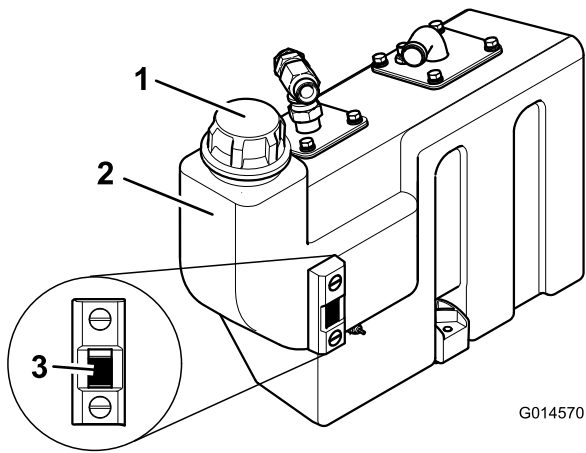

Figure 24
3. If hydraulic oil is needed, clean area around the cap of hydraulic tank (Figure 24). Remove cap from the tank.